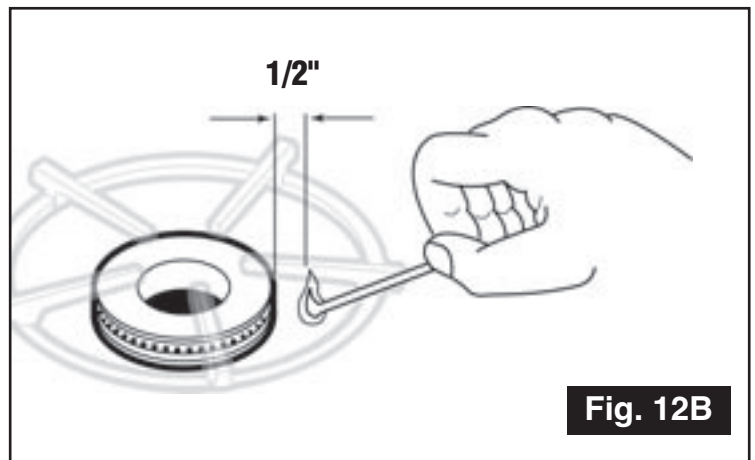

Fig. 12B
2. Place an ignited lighter or lit match near the ports, approximately 1/2" (1.25 cm) from burner (Figure 12B).